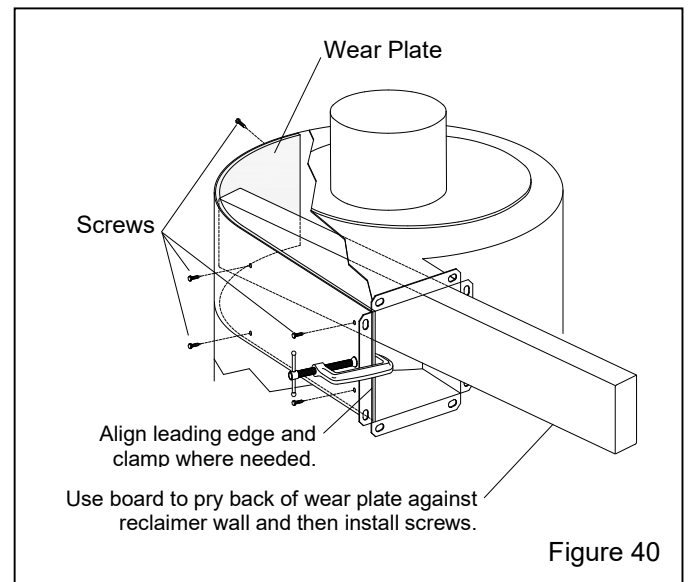

Figure 40
7.11.1 300 cfm reclaimer with welded-on, nonremovable top – Figure 40
7.11.1.6 Use a board or similar object as leverage to pry the wear plate against the inner wall of the reclaimer, as shown in Figure 40.